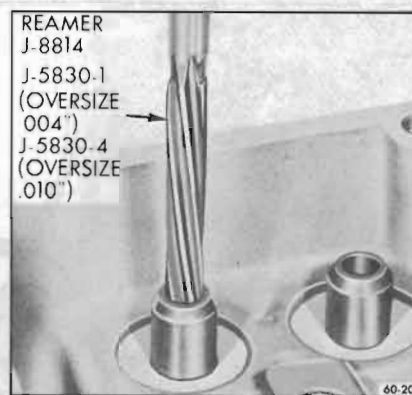

Figure 60-114—Reaming Valve Guide
8. If a V-6 valve stem has excessive clearance in its guide, the guide must be reamed .004" oversize, using Reamer J-5830-1. See Figure 60-114 .004" oversize valves are available through the Parts Department.